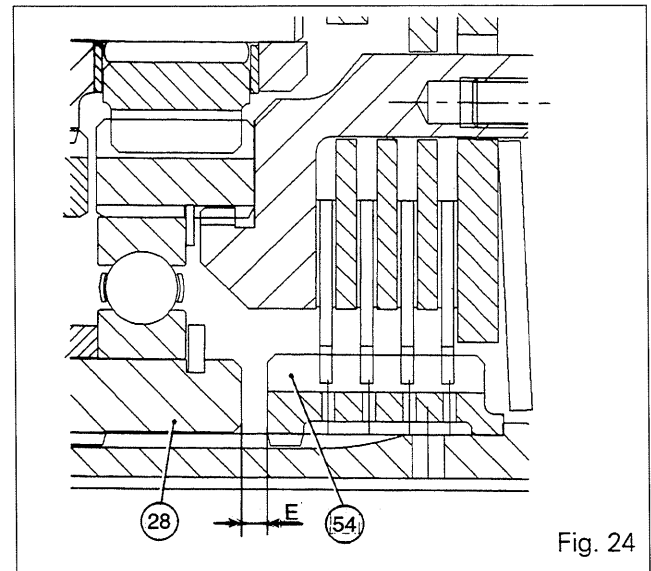

Fig. 24
69. Fit the secondary sun gear (61) and its retaining ring (49) onto the ball bearing (57).
71. Determine space **E** between the primary planetary carrier (28) and the splined hub (54) (Fig. 24) using the following formula: **E = A + D**.